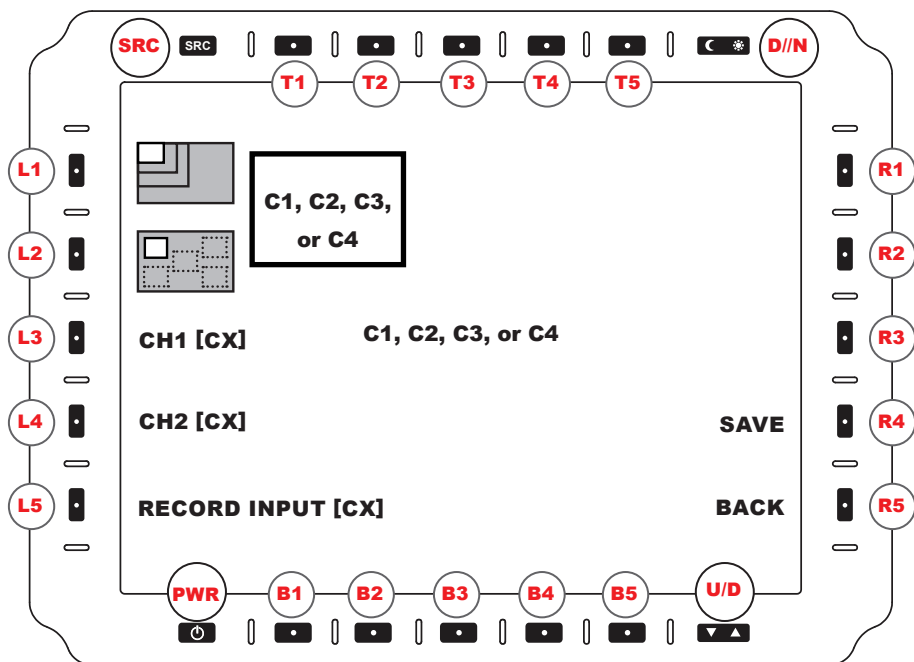
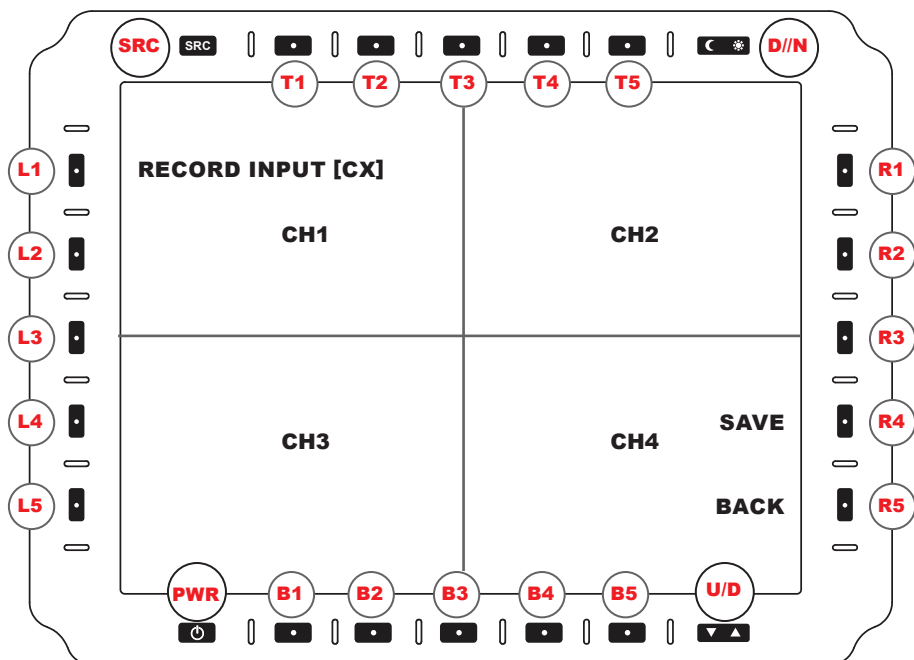
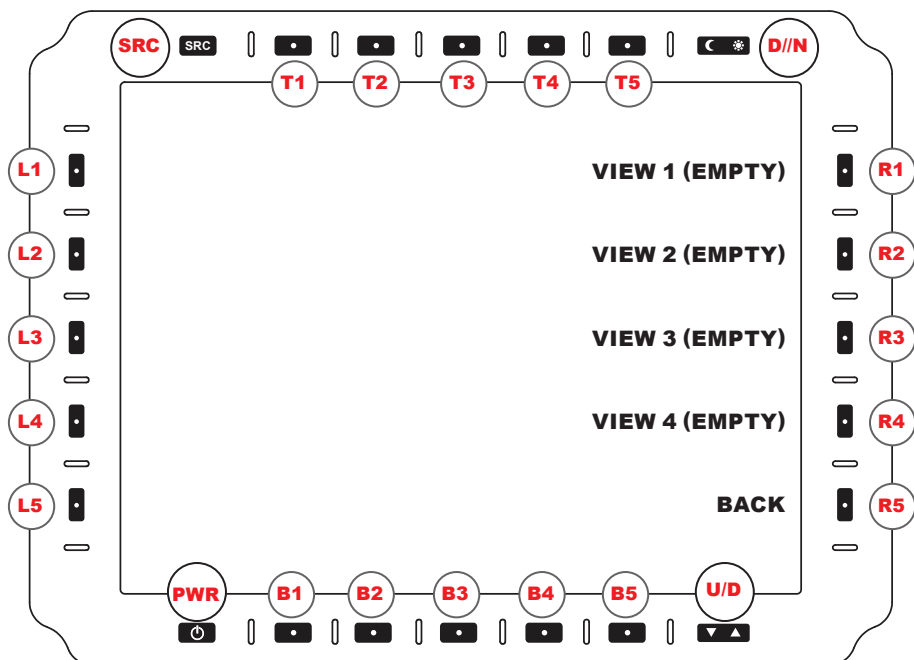
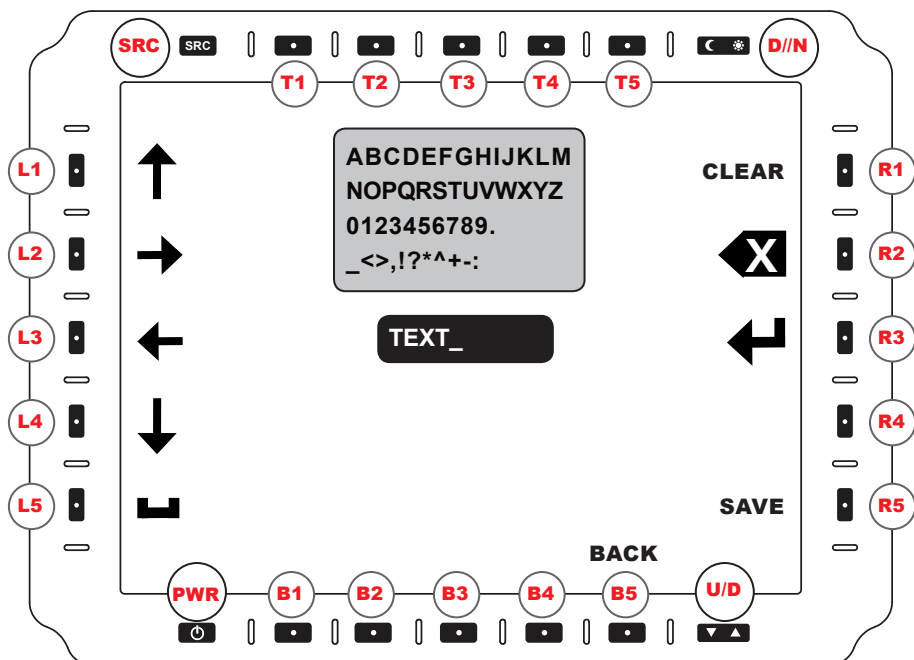

FIGURE 21. PIP OPTIONS MENU
FIGURE 23. QUAD OPTIONS MENU
FIGURE 24. SAVE VIEW MENU
FIGURE 25. VIEW NAME ENTRY MENU
To enter the submenu Picture-In-Picture (PIP) Options (Figure 21), select PIP (R2) from View Mode Menu (Figure 12). User determines Video feed assigned to PIP view setting. A highlight border draws around the recorded feed.
SAVE (R4). Opens Save View Menu (Figure 24).
The QUAD Options Menu allows for up to (4) Video Input Sources to be viewed (Figure 23). This submenu is accessed from (R4) in View Mode Menu (Figure 12). If a Video feed is unavailable, that quadrant should appear black. A highlight border draws around the recorded feed.
Use the Save View Menu (Figure 24) to save PIP (Figure 21), POP (Figure 22), or QUAD (Figure 23) configurations for various views. Select entry using R (Right) softkeys. User is directed to Name Entry Menu (Figure 25) to name view configurations.
VIEW 1 (R1). Saves the assigned PIP/POP/QUAD View 1 entry. Key press opens View Name Entry Menu to name the view (Figure 25); new view name replaces 'Empty'.
VIEW 2 (R2). Saves the assigned PIP/POP/QUAD View 2 entry. Key press opens View Name Entry Menu to name the view (Figure 25); new view name replaces 'Empty'.
VIEW 3 (R3). Saves the assigned PIP/POP/QUAD View 3 entry. Key press opens View Name Entry Menu to name the view (Figure 25); new view name replaces 'Empty'.
VIEW 4 (R4). Saves the assigned PIP/POP/QUAD View 4 entry. Key press opens View Name Entry Menu to name the view (Figure 25); new view name replaces 'Empty'.
In the submenu View Name Entry (Figure 25), User can name the Save View previously created. (Figure 24). Access to this screen is through the Save View Menu. Use the Left and Right softkeys to navigate. Text assigned will appear in the TEXT field (black) shown in the above screen capture.
BACK (B5). Returns to Save View Menu (Figure 24).